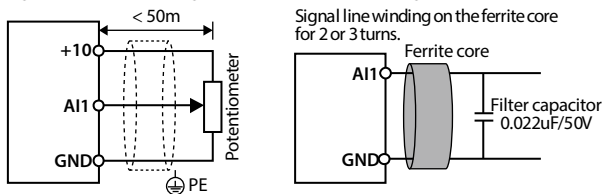
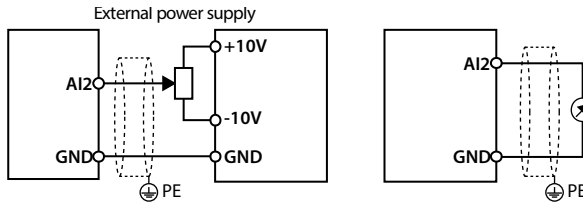

Figure 4-7 AI1 connection
Figure 4-8 AI2 connection
The AI1 is voltage input and the range is 0 - 10V, as shown in Figure 4-7.
2. In serious interference occasions, the analogue input signal should add filter capacitor and ferrite core, as shown in Figure 4-7.
AI2 are selected as voltage input and the range is -10 - +10V. When selecting internal +10V of HD30, refer to Figure 4-7; selecting +/-10V external supply, refer to Figure 4-8.
AI2 are selected as current input and the range is 0 - 20mA, refer to Figure 4-8.